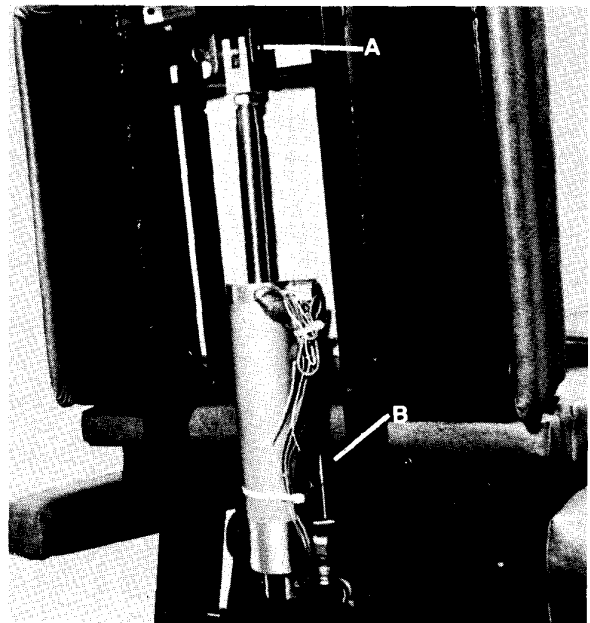
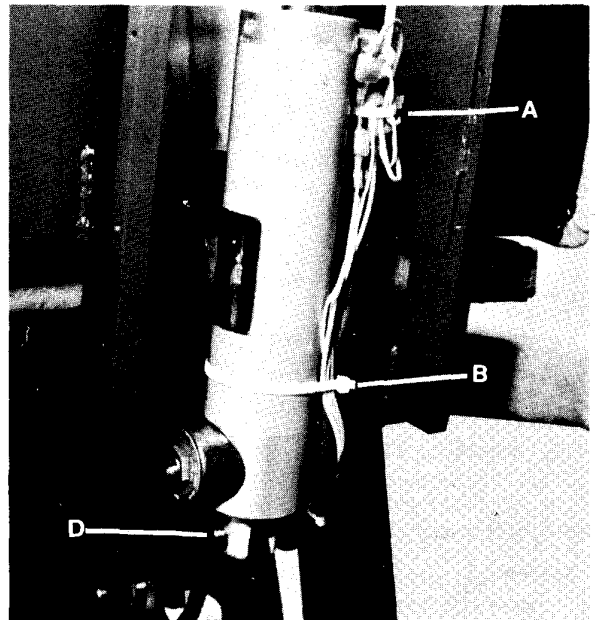

Fig. 29
Fig. 30
- 2) With an assistant supporting the seat section, remove the cotter pin and clevis pin, Item A, Fig. 29 from the rod end of the cylinder and let cylinder hang down.
- 3) Remove the (1) nylon tie, Item A, Fig. 30 from the wires and the (1) large nylon tie, Item B, Fig. 30 from the cylinder.
- 4) Remove the solenoid, Item C, Fig. 30 from the cylinder by removing the large nut with a  $\frac{3}{4}$ " wrench and pulling solenoid off of valve stem.
- 5) Disconnect the (4) wires to the (2) reed switches, Item B, Fig. 29 by pulling apart the quick-connect wire connectors. Note the wire connections so that they may be replaced exactly the same way.
- 6) Remove the (2) hose fittings from the defective cylinder using a  $\frac{1}{2}$ " wrench.
- 7) Remove the cylinder from the chair by removing the "E"-ring and clevis pin, Item D, Fig. 30 from the valve end of the cylinder.
- 9) Place new cylinder in position and install clevis pin, Item D, Fig. 30 and "E"-ring at the valve end of the cylinder.
- 10) Install solenoid, Item C, Fig. 30 on new cylinder by placing solenoid on valve stem and securing with the large nut.
- 11) Connect the (2) hose fittings tightly to the new cylinder using a 1/2" wrench.
- 12) Connect the (4) wires to the (2) reed switches, Item B, Fig. 29 by mating the quick-connect wire connectors. See Wiring Diagram on Page 47.
- 13) Install the (1) large nylon tie, Item B, Fig. 30 on the cylinder and the (1) nylon tie, Item A, Fig. 30 on the wires.
- 14) Attach the new cylinder to the seat section by aligning the rod clevis and installing the clevis pin, Item A, Fig. 29 and the cotter pin.